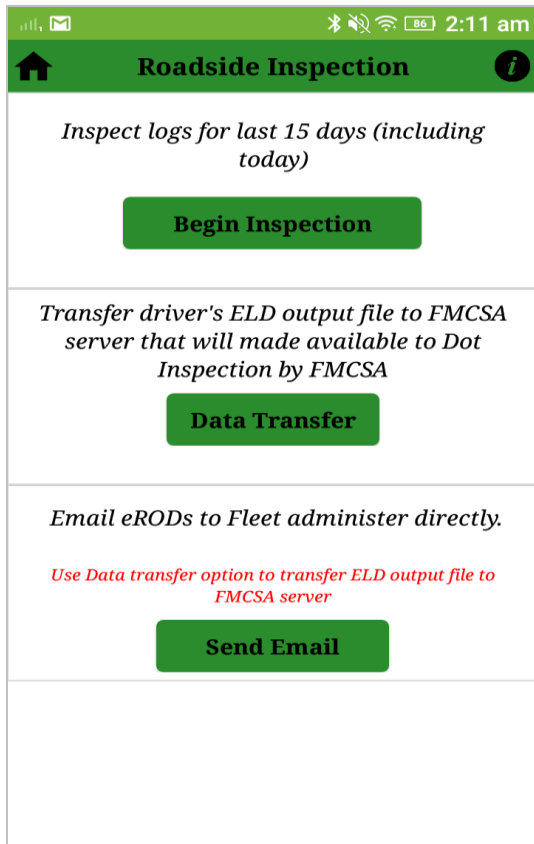

Figure 14.1 – Roadside Inspection screen
- Select Begin Inspection if DOT inspector prefer to view the eRODS on the mobile screen.(figure 14.1)